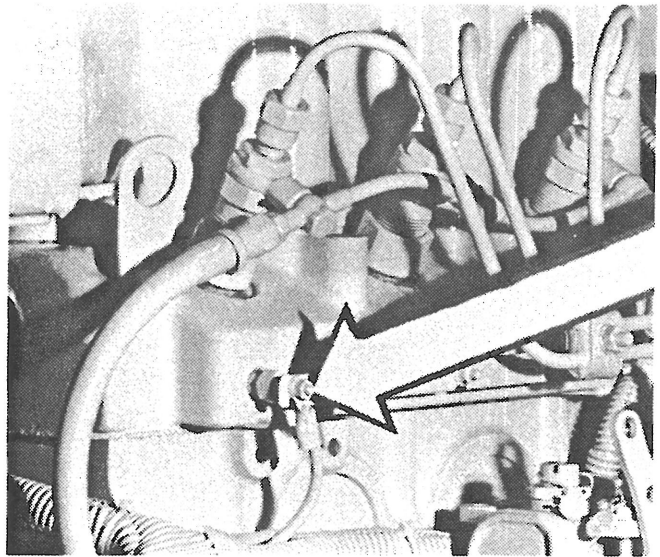

Figure 73 - Glowplug
- b. To check the glowplugs, loosen the current carrying flat wire between the plug-poles of the glowplugs (figure 73). Connect a bulb between the plus-pole of the battery and the plus-pole of the glowplug. If the bulb lights up the glowplug is functioning.